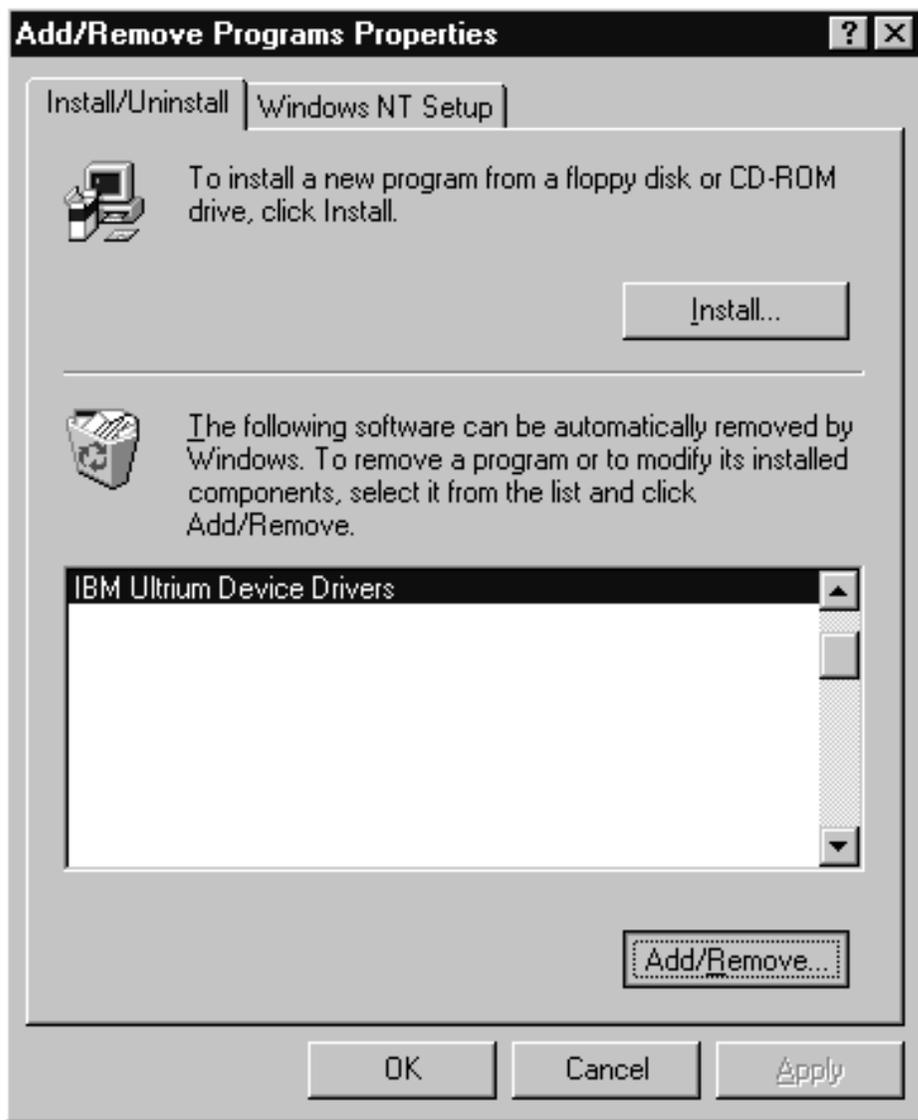

Figure 19. Add/Remove Properties
7. Highlight **IBM Ultrium Device Drivers**, then click **Add/Remove....** See Figure 19.